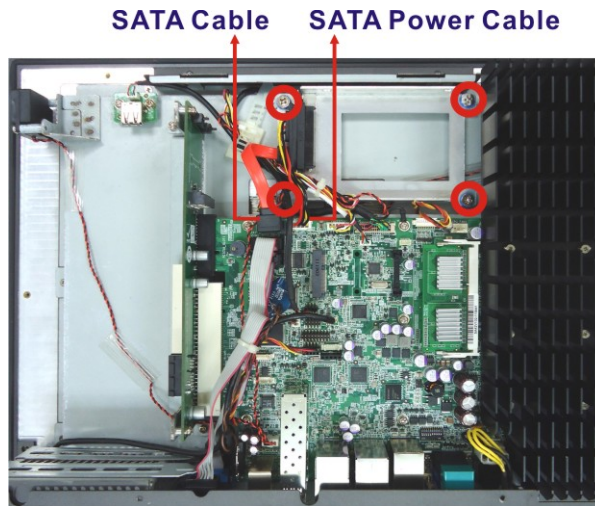

Figure 3-8: HDD Bracket Retention Screws
Step 2: Remove the four HDD bracket retention screws and unplug the SATA cable and the SATA power cable from the motherboard. See **Figure 3-8**.